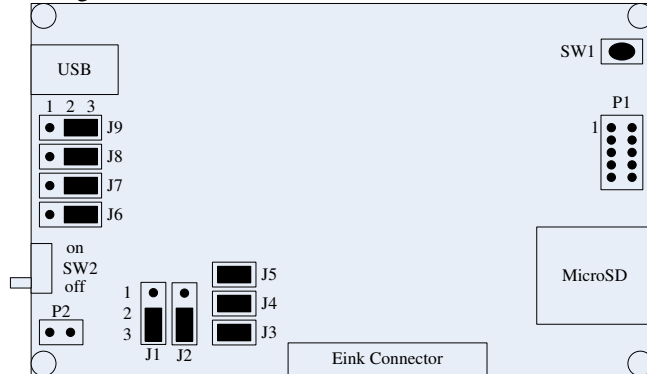

Figure 29. Correct Jumper Positions for Virtual Com
6. Disconnect USB cable, configure the jumpers as shown in Figure 29 for virtual COM.
- It is recommended to power development board through USB as described in Figure 29 when evaluating ADXL362Z-DB GUI. For data logger, it is recommended to use high capacity AAA batteries or lithium thin cell to power the development board, and thus it integrates seamlessly into portable applications as shown in Figure 40.
- USB, all kinds of functions can be supported by USB supply. When using USB supply, please make sure the jumper J2 is at 2-3 position as shown in Figure 29 (There are notes on PCB board). There is a 3V LDO ADP3338 on the board which will switch 5V input to 3V for the following circuits.